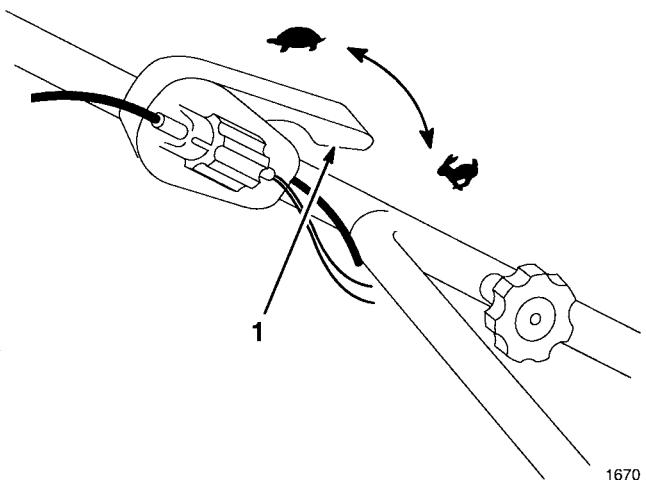

Figure 10
1. Move throttle lever to  FAST position (Fig. 10).